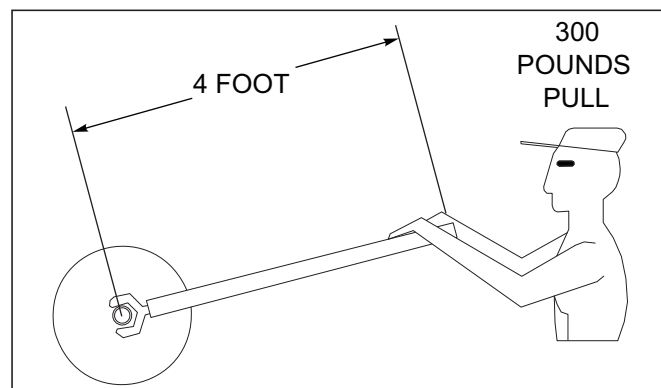

Figure 4-6: 1,250 Foot-Pounds of Torque
3. When reassembling the disc gang, remove any soil or mud from the disc blades and spools to ensure a clean surface when tightening the gang. Clean the gang threads and install the gang nut. Torque the disc gang shaft to a minimum of 1200 ft-lbs **See Figure 4-6**.